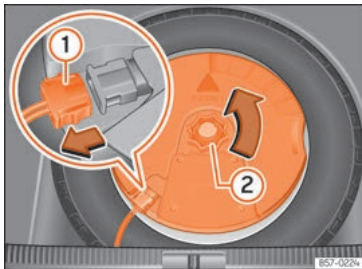

Fig. 318 In the boot: remove the subwoofer.
- Disconnect the cable for the subwoofer speaker » Fig. 318 ①.
- Turn the securing wheel anti-clockwise ②.